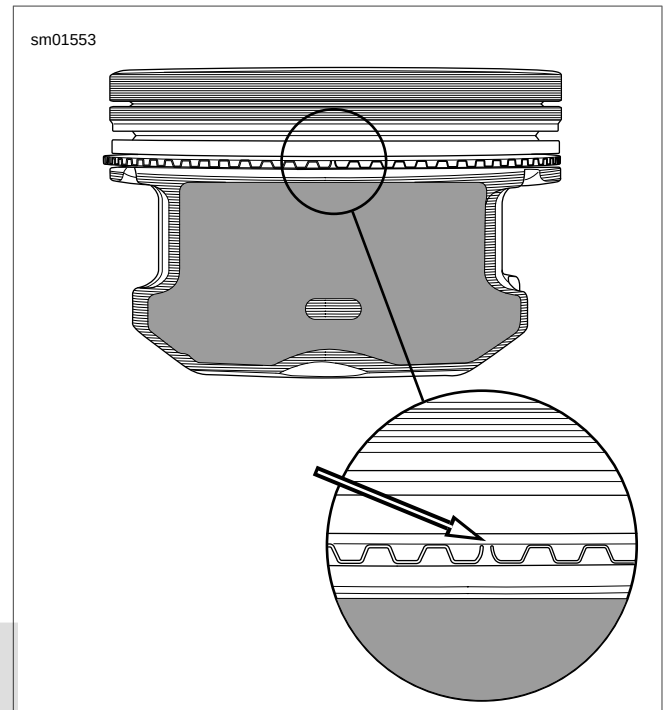

Figure 3-78. Installing Oil Control Ring Expander Spring (typical)
3. See Figure 3-78. Install oil control ring expander spring. Make sure ends of spring point upward. Spiral bottom oil control ring into space in ring groove below expander spring. Position oil control ring gap 90 degrees from gap in expander spring. Spiral top oil control ring into space in ring groove above expander spring. Position oil control ring gap 180 degrees from gap in bottom oil control ring.